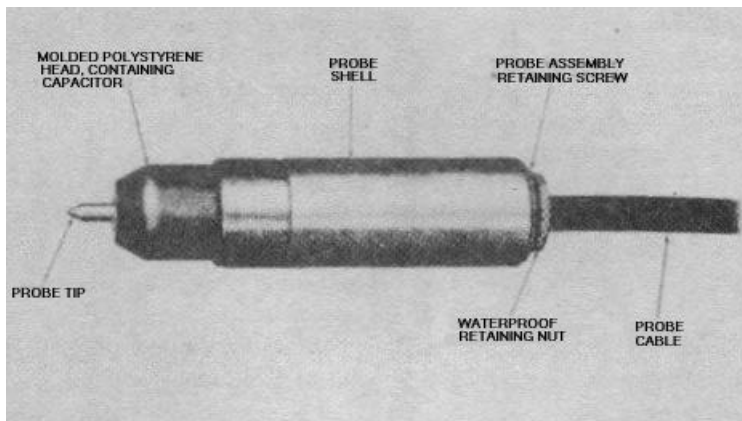

Figure 20. A-c probe.
a. Because of the mechanical difficulties and special techniques needed to replace the tube in the a-c probe (fig. 20) repair of this component is not recommended. Instead, if capacitor C1 is defective, replace the a-c probe shell. If diode VI or resistor R1 is defective, replace with a spare diode assembly.
(1) With one hand, grasp the diode assembly retaining screw (fig. 20) to prevent it from turning; with the other hand, loosen the waterproof sealing nut.